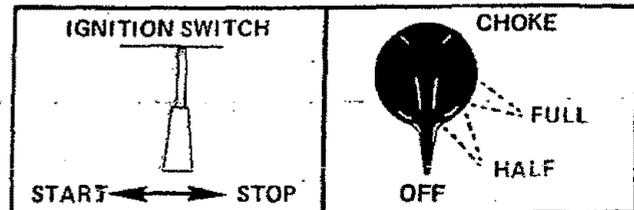

Figure 15
- b. Move ignition switch to "Start" position. Figure 15.
- c. Adjust choke according to "Starting Procedure for Varying Conditions" below. Figure 15.
- f. Stop engine by moving the ignition switch to the "Stop" position. Figure 15.
- 1.) Leave choke at the off position. Figure 15.
- 1.) Pull choke to full choke position. Figure 15.
- 3.) Push choke to the off position. Figure 15.
- 3.) Push choke until half position is felt. Figure 15.